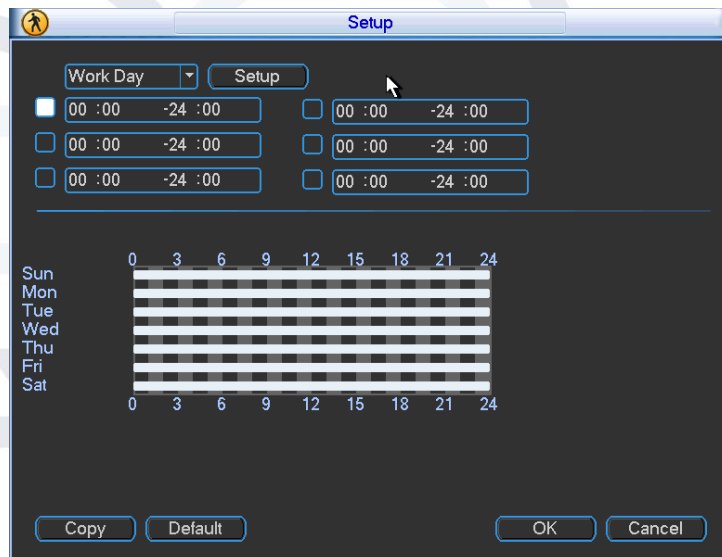

Figure 4-35
- **Period:** Click set button, you can see an interface is shown as in Figure 4-35. Here you can set for business day and non-business day. In Figure 4-35, click set button, you can see an